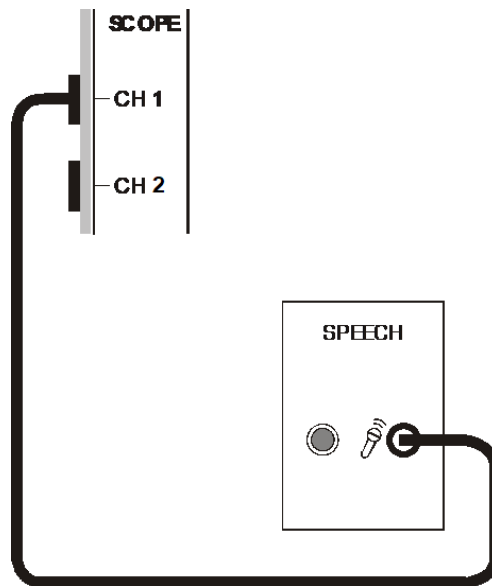

Figure 3: SPEECH module to scope patching diagram
- Connect the set-up shown in Figure 3 below.